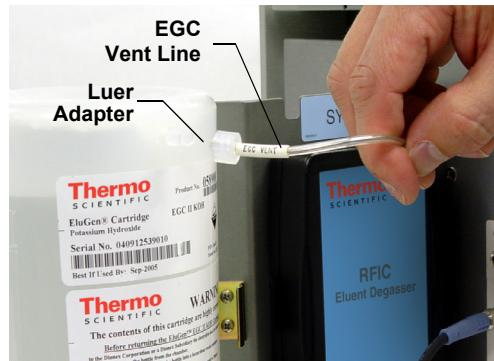

Figure 10-17. Analytical Dionex EGC Vent Line (Standard-Pressure Cartridge Shown)
- a. Remove the **VENT** line from the Dionex EGC by unscrewing the 10-32 luer adapter (see Figure 10-17).
3. Turn the cartridge upside down and place it on the EG drip tray in the service position (see Figure 10-17).
12. Connect the **VENT** line removed from the old cartridge to the vent opening in the new cartridge (see Figure 10-17).